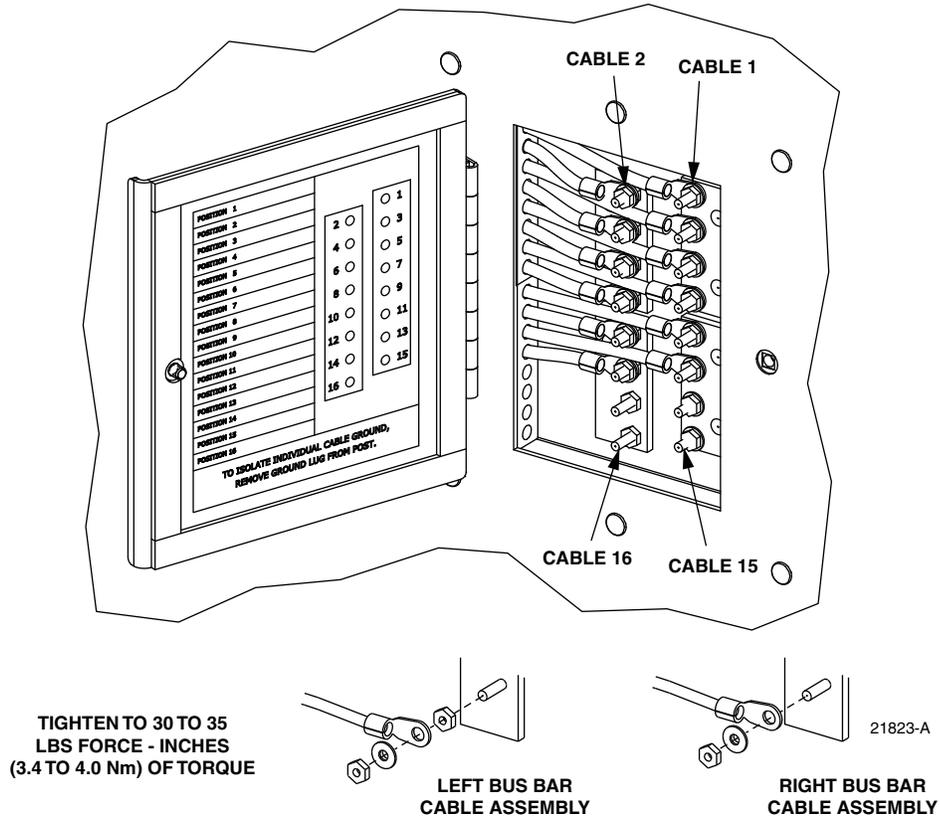

Figure 29. Cable Grounding System - Exterior View
21. Open the grounding system access cover located on the rear side of the cabinet as shown in Figure 29.